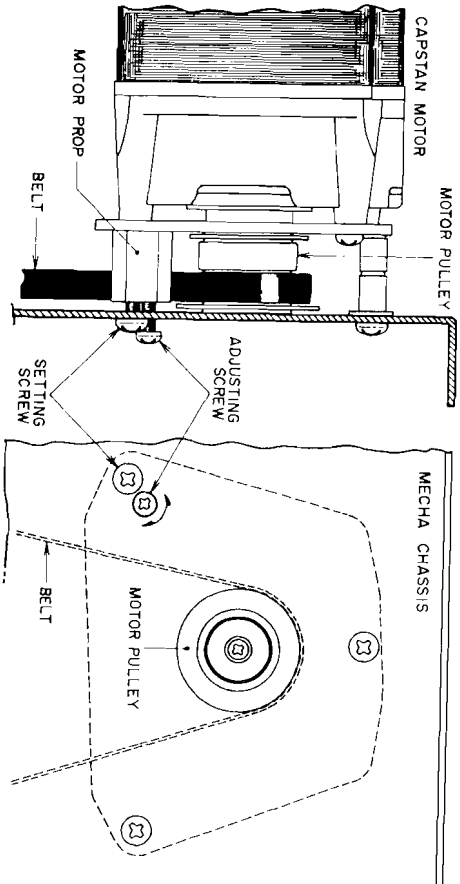

Fig. 6
- 1) With capstan motor revolutions operating at Rev. mode, loosen setting screw and turn flywheel belt position adjustment screw until the flywheel belt comes to the center of the motor pulley. (Refer to Fig. 6)